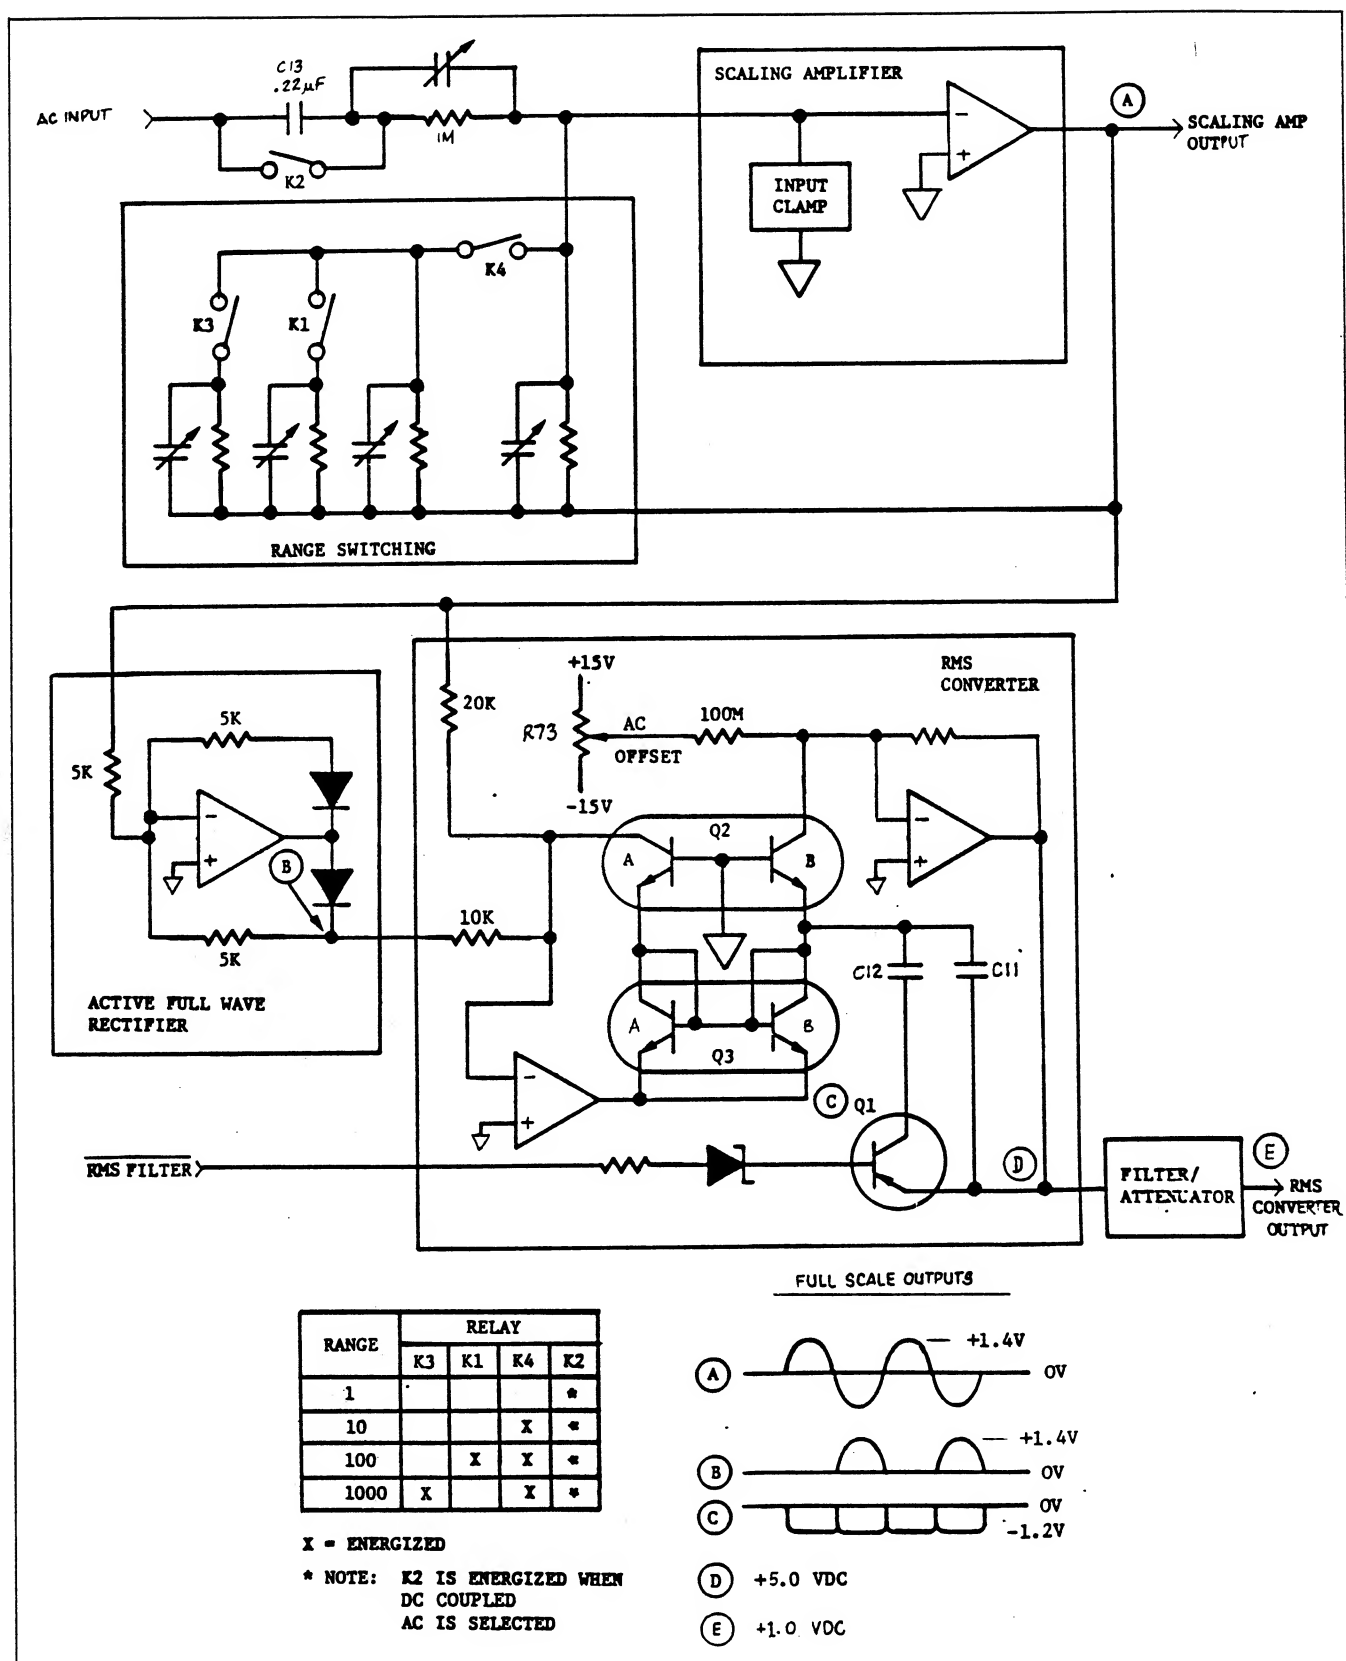

Figure 5.20 - True RMS Converter
5.3.5.8.1 The True RMS Converter (Figure 5.20) is comprised of a range switching network, scaling amplifier, active rectifier, RMS converter and attenuator/filter network.
5.3.5.8.2 *Range Switching.* The input signal is routed through C13 (AC coupled AC) or through K2 (DC coupled AC) to the range switching network. The range switching circuitry provides signal attenuation in the 10 volt, 100 volt and 1000 volt ranges. The table in Figure 5.20 details the relay closures for each range.